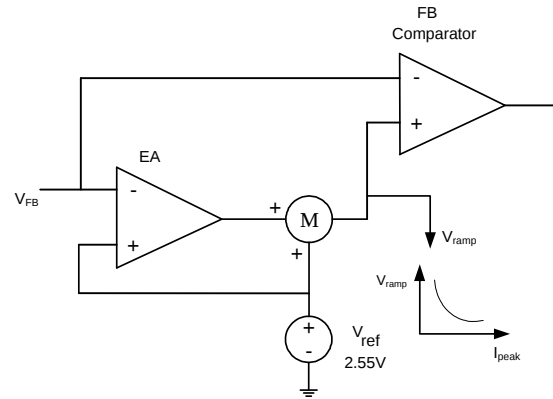

Figure 4: EA and Ramp Compensation
The MPQ4590 has an internal error amplifier (EA) compensation loop that samples the feedback voltage 6μs after the MOSFET turns off and regulates the output based on the 2.55V reference voltage (see Figure 4).
An internal ramp compensation circuit is used to improve the load regulation. An exponential voltage signal is added to pull down the reference voltage of the feedback comparator (see Figure 4). The ramp compensation is a function of the load conditions: the compensation is about 1mV/μs under full-load conditions, and the compensation increases exponentially as the peak current decreases.